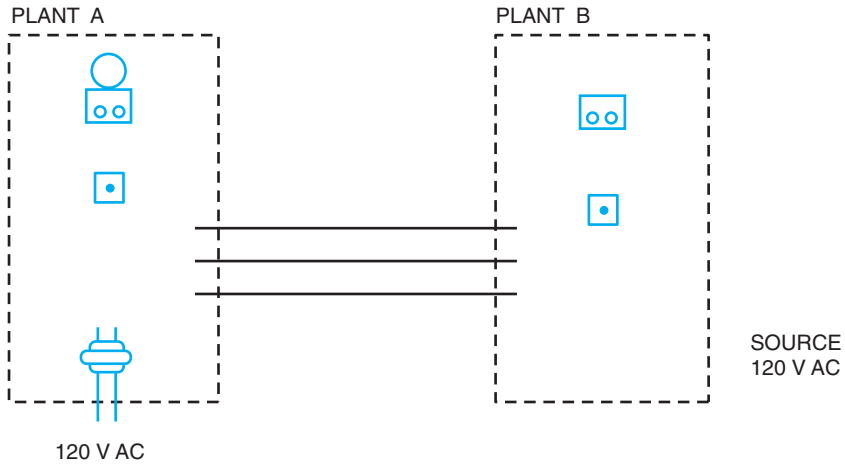

Figure 16-8 Wiring diagram.
1. In Figure 16-8, the pushbutton in Plant A is to operate the buzzer in Plant B. The pushbutton in Plant B is to operate the bell in Plant A. Only one supply source is available at Plant A and only three wires may be used between the two plants. Complete the wiring diagram.